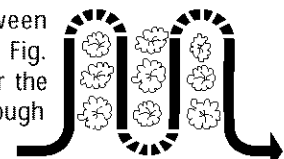

Fig. 4-9
• When cultivating (breaking up surface soil around plants to destroy weeds, see Fig. 4-9), adjust the tines to dig only 1" to 2" deep. Using shallow tilling depths helps prevent injury to plants whose roots often grow close to the surface. If needed, lift up on the handlebars slightly to prevent the tines from digging too deeply. (Cultivating on a regular basis not only eliminates weeds, it also loosens and aerates the soil for better moisture absorption and faster plant growth.)
With planning, you can allow enough room between rows to cultivate (see Fig. 4-9). Leave room for the hood width, plus enough extra room for future plant growth.